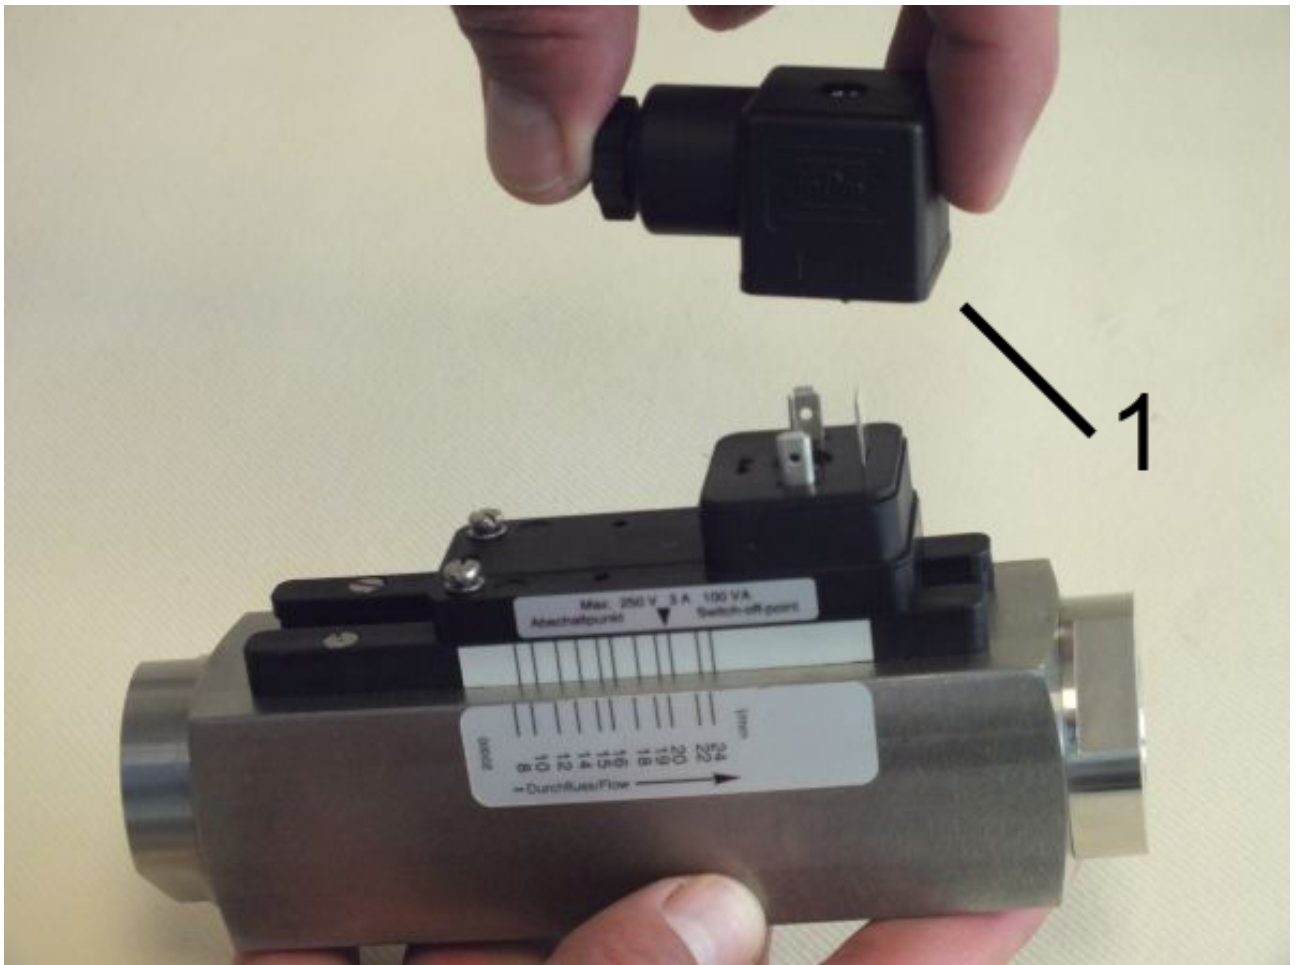

Fig. 29: Remove socket
2. ➤ Remove socket (Fig. 29/1)